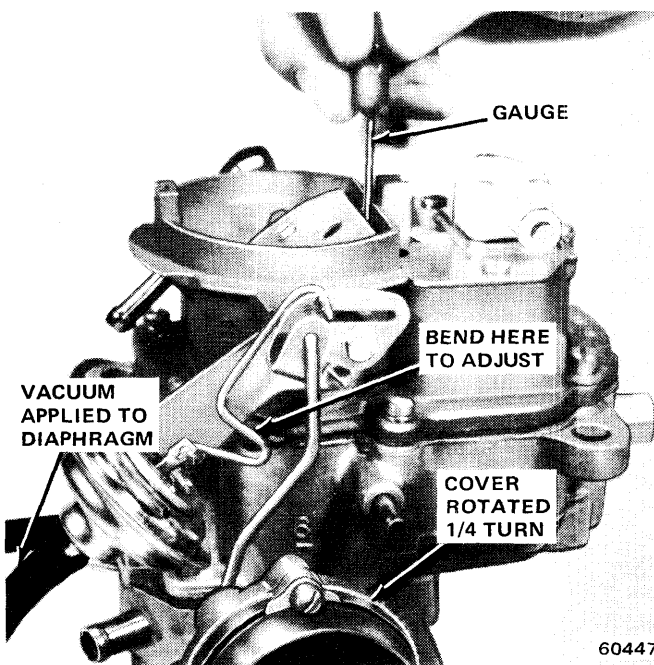

Fig. 4-59 Initial Choke Valve Clearance
- (1) Turn choke cover 1/4 turn rich.
- (2) Use Tool J-23738 or any vacuum source which holds at least 19 inches of mercury (Hg) to pull in diaphragm against stop.
- (3) Open throttle valve slightly to place fast idle screw on high step of cam.
- (4) With choke coil tang held toward closed position, measure clearance between choke plate and air horn wall. Refer to Carburetor Service Specifications.
- (5) Adjust clearance by bending diaphragm connector link (fig. 4-59).